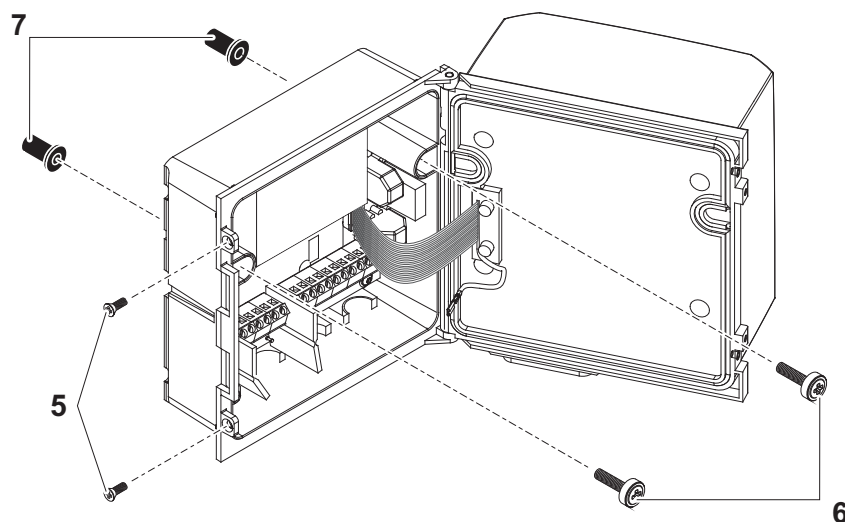

Fig. 3-6 Mounting the sun shield: Premounting the ISO blind nuts
- 2 Remove the two countersunk screws (pos. 5 in Fig. 3-6) and swing open the lid.
- 3 Insert the cheese-head screws (pos. 6 in Fig. 3-6) with the plastic washers in the drilled mounting holes and loosely screw in the ISO blind nuts (pos. 7).
- 4 Position the universal transmitter on the sun shield and fix it into place with the two screws (pos. 6 in Fig. 3-6).
- 5 Close the lid and fix it with the two countersunk screws (pos. 5 in Fig. 3-6).